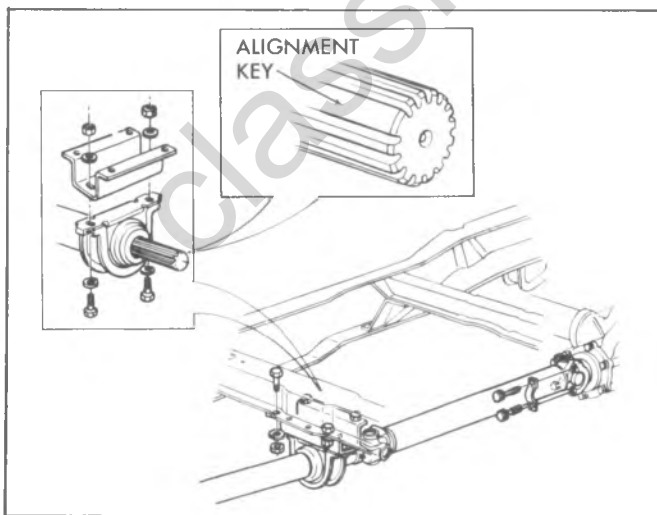

Fig. 4A-19-Alignment Key
4. Once the bearing cup protrudes $3/8''$, release vice. Grasp protruding portion of cup in vice and strike center yoke as shown in Figure 4A-22 until cup is removed. Remove cup seal by prying off with a thin screwdriver.